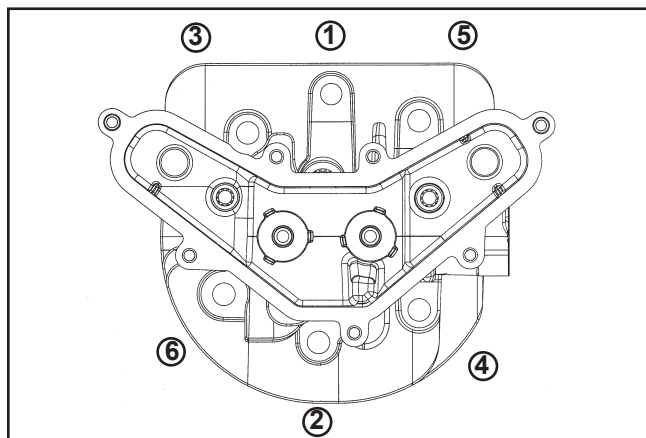

Figure 10-41. Cylinder Head Fastener Torque Sequence.
- Using the torque sequence shown in Figure 10-41, torque the cylinder head screws in two stages; initially to 20.5 N·m (180 in. lb.), and finally to 41.0 N·m (360 in. lb.).